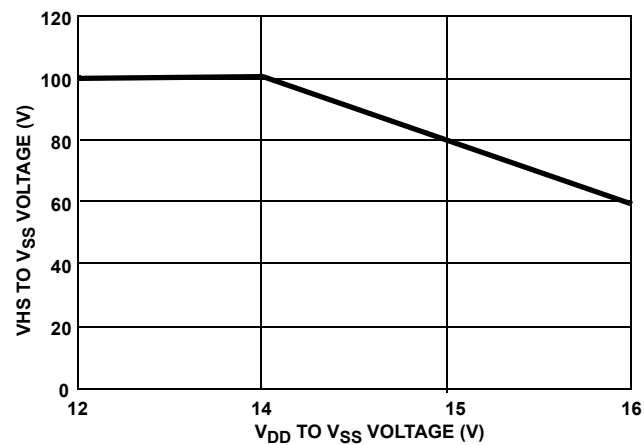

FIGURE 16. VHS VOLTAGE vs V_{DD} VOLTAGE
- The HIP2101 is capable of derated operation at supply voltages exceeding 14V. Figure 16 shows the high-side voltage derating curve for this mode of operation.